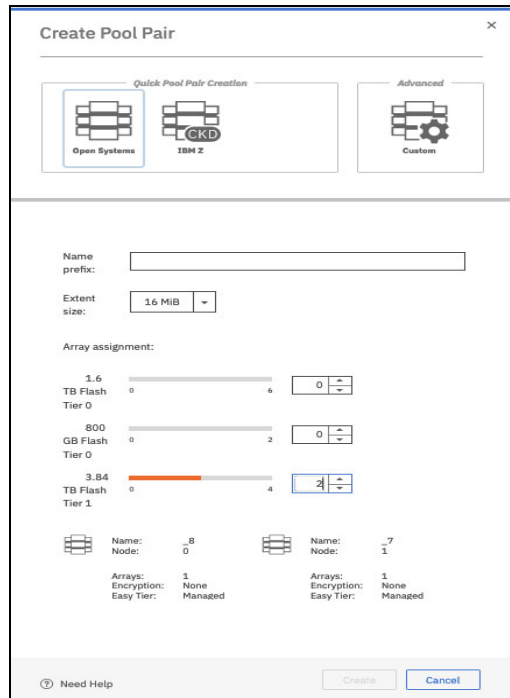

Figure 9-38 Creating an FB pool pair and assigning arrays
3. Specify the pool pair parameters, as shown in Figure 9-38 on page 273:
- Storage type: Ensure that **Open Systems (FB)** is selected.